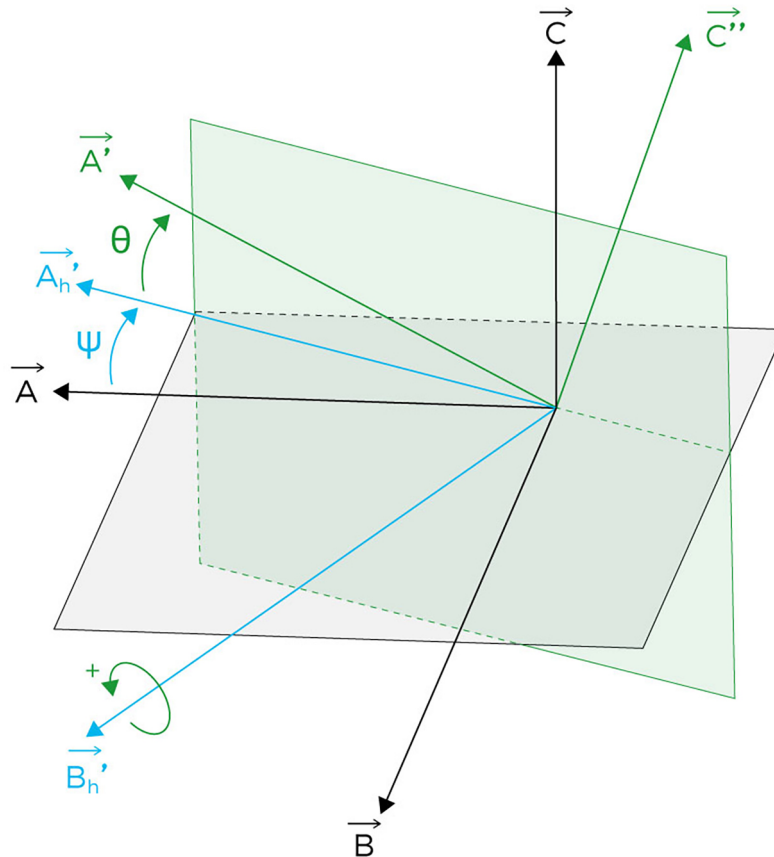

Figure 23 - Illustration of the second rotation around $\underline{B}_h'$
2. Rotation of $(\underline{A}_h', \underline{B}_h', \underline{C})$ around $\underline{B}_h'$ **angle θ** (see the Figure 23) to yield $(\underline{A}', \underline{B}_h', \underline{C}'')$.